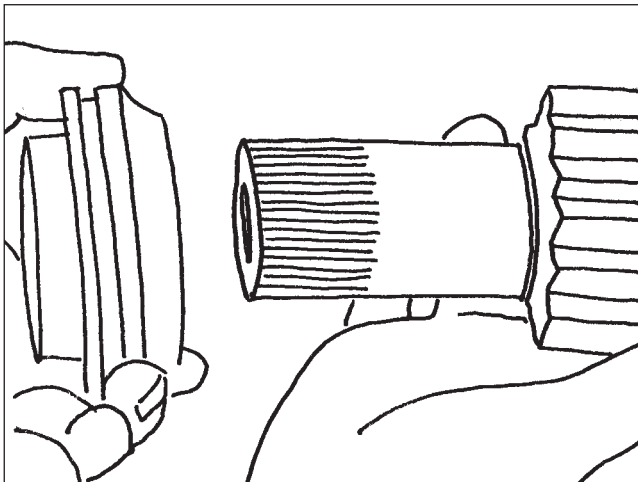

Figure 91
8. Carefully slide the sector shaft and cover out of the housing. Slide the cover off the sector shaft (**Figure 91**).